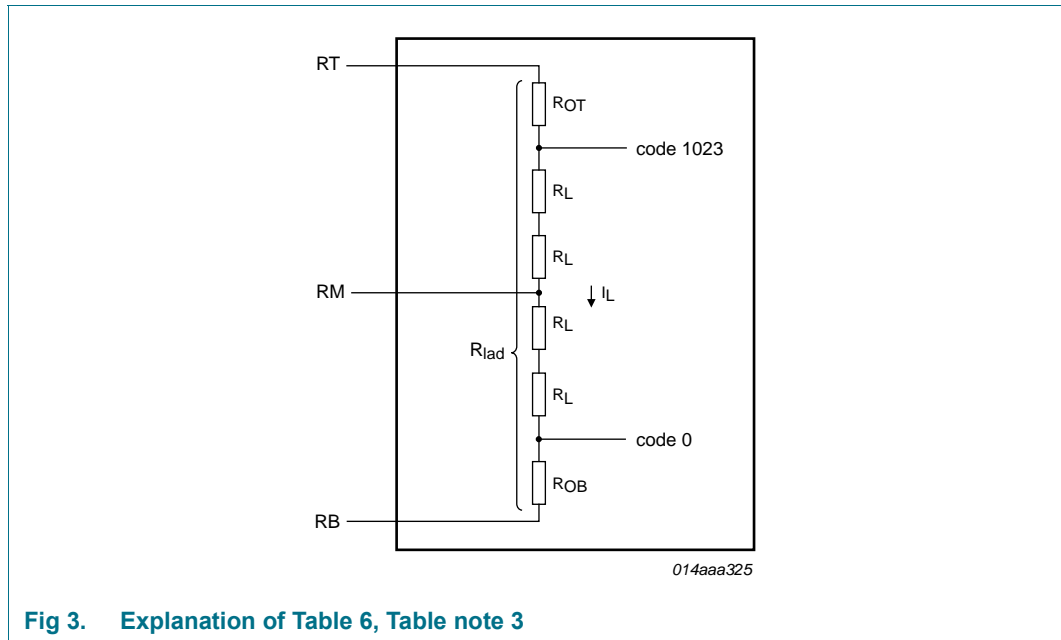

Fig 3. Explanation of Table 6, Table note 3
- [3] In order to ensure the optimum linearity performance of such converter architecture the lower and upper extremities of the converter reference resistor ladder (corresponding to output codes 0 and 1023 respectively) are connected to pins RB and RT via offset resistors R_{OB} and R_{OT} as shown in Figure 3.